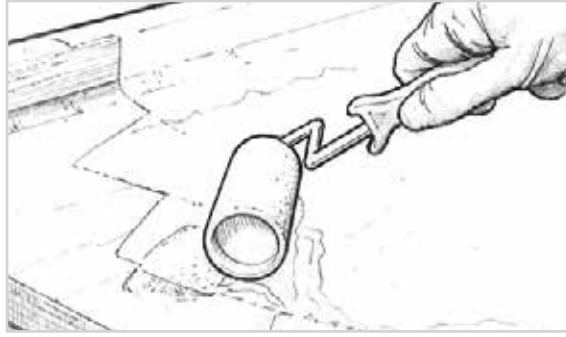

Figure 8-14 Wet out porous surfaces before applying thickened fairing compound.
2. Wet out porous surfaces with unthickened epoxy (Figure 8-14).